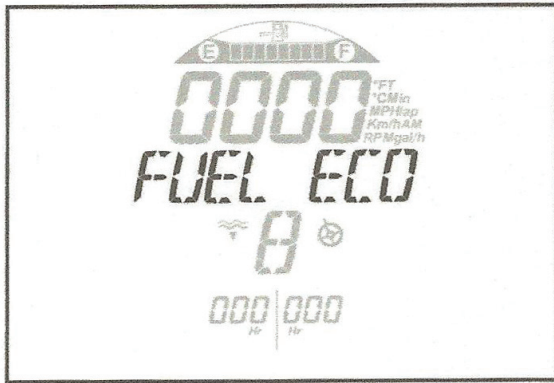

Figure D14: ECO MODE Displayed
- a. To engage the fuel economy mode, press MODE button repeatedly until ECO MODE is displayed. See Figure D14.